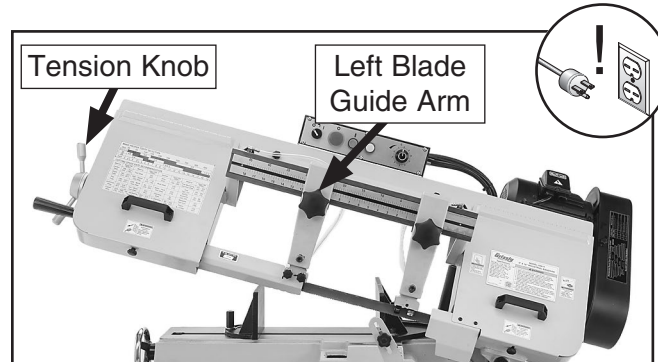

Figure 24. Location of left blade guide arm.
3. Loosen and slide left blade guide arm (see **Figure 24**) as far left as it will go, then secure.
4. Turn tension knob shown in **Figure 24** clockwise to tighten blade or counterclockwise to loosen blade.